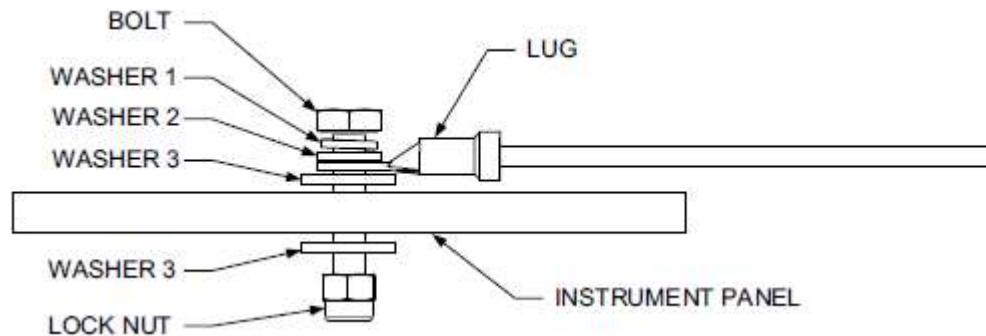

Figure 3-10 – Instrument Panel Bonding
If the instrument panel in which the GMC 507 is installed is electrically isolated from the aircraft structure, it must be bonded to the aircraft structure for this installation. See Figure 3-10. The instrument panel bonding strap length should be as short as possible and must not exceed six inches in length. The installation must avoid the bonding strap looping back on itself. See section 3.5.2.1 for hardware specifications. Use the surface preparation steps provided in section 3.5.1. Complete the installation using the following procedure along with the guidance in AC 43.13-1B, AC 43.13-2B and aircraft make/model specific structural repair documentation, as necessary. Construct a bonding strap by attaching 5/16" inside diameter terminal lugs to both ends of the braid. Install the bonding strap with the following procedure:
- Lock washer, 5/16", NASM35338-45 (Figure 3-10, washer 1)
- Flat washer, 5/16", NAS1149F0532P (Figure 3-10, washer 2)
- 1. Flat washer, 0.063" thick NASM970-5 (AN970-5) (Figure 3-10, washer 3)